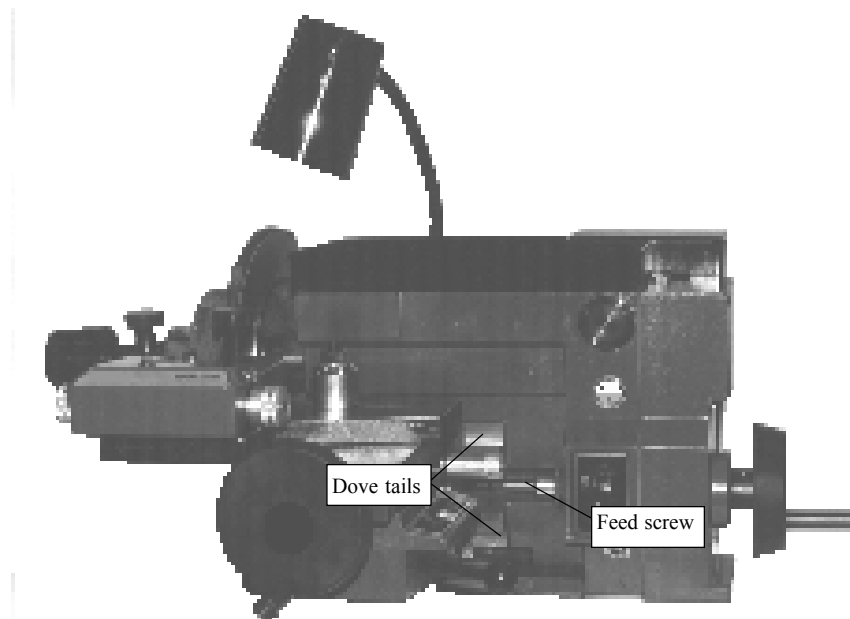

Figure 53
5. An occasional spray of lubricant (CRC or WD40) on the feed screw and nut is recommended. See Figure 53.
6. It is important to keep the arbor clean and lightly lubricated to permit adapters and collets to slide on and off easily. See Figure 53.
8. The rotor truer must be kept clean. A periodic spray of lubricant directed under the cover casting is recommended. This will keep the tool bar lubricated and operating freely when turning the micrometer feed dial knobs. **See Figure 53.**
9. After each three months of operation, lubrication with chassis grease through grease fitting at arbor end (on the back side of the housing) is recommended. **See Figure 53.**